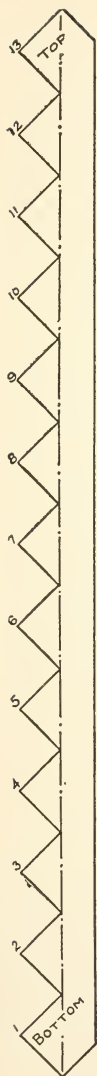

Fig 235. LOWER-STRINGERS
**Prepare Two Stringers** of thirteen steps similar to Fig. 235, and two stringers of five steps similar to Fig. 236, laying off the steps by means of a cardboard pattern, or *pitch-board*, of the size shown in Fig. 237. After cutting out these pieces, fasten the tops of the lower stringers in the notches *A* and *B* in the platform, and nail the platform in its proper position in